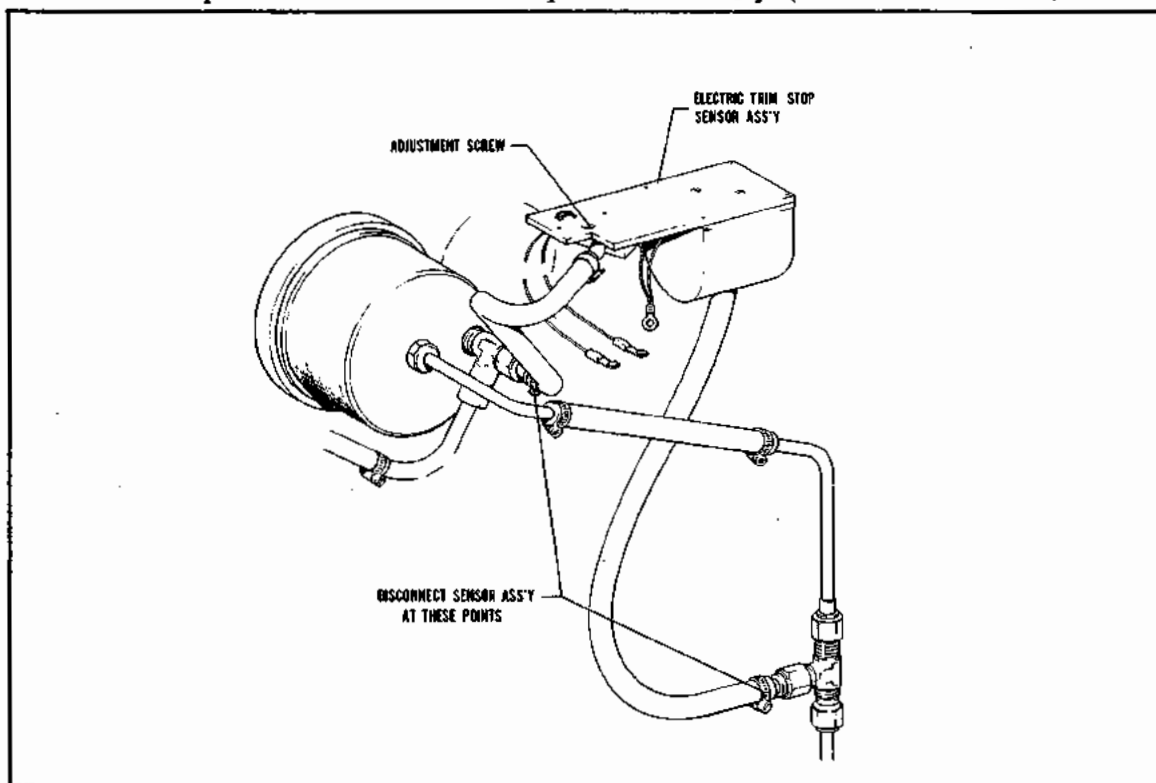

Figure 3-10. Electric Trim Stop Sensor Assembly Installation
**3-24. INSTALLATION OF ELECTRIC TRIM STOP SENSOR ASSEMBLY.** (PA-28-181, PA-32R-300, PA-32RT-300 and PA-32RT-300T.) (Refer to Figure 3-10.)